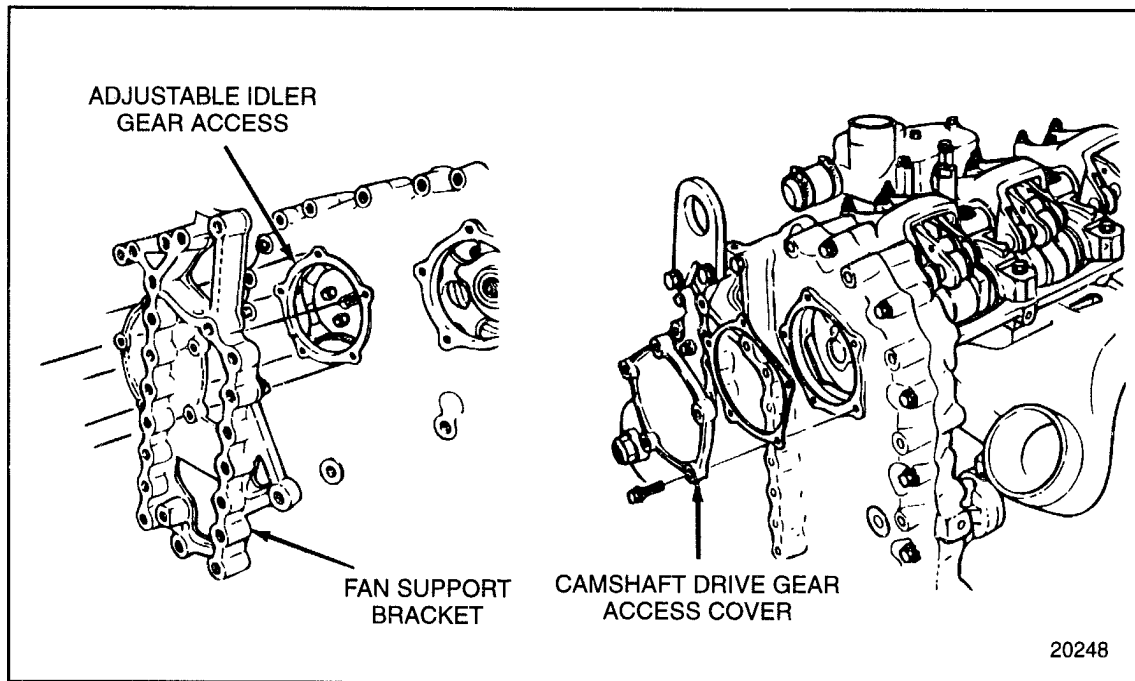

FIGURE 1-273 Camshaft Drive Gear and Adjustable Idler Gear Access Cover
Access openings are provided in the gear case cover for camshaft drive gear lash adjustment and camshaft retaining bolt removal. See Figure 1-273.
2. Remove the five bolts that secure the camshaft drive gear access cover to the gear case. See Figure 1-273.